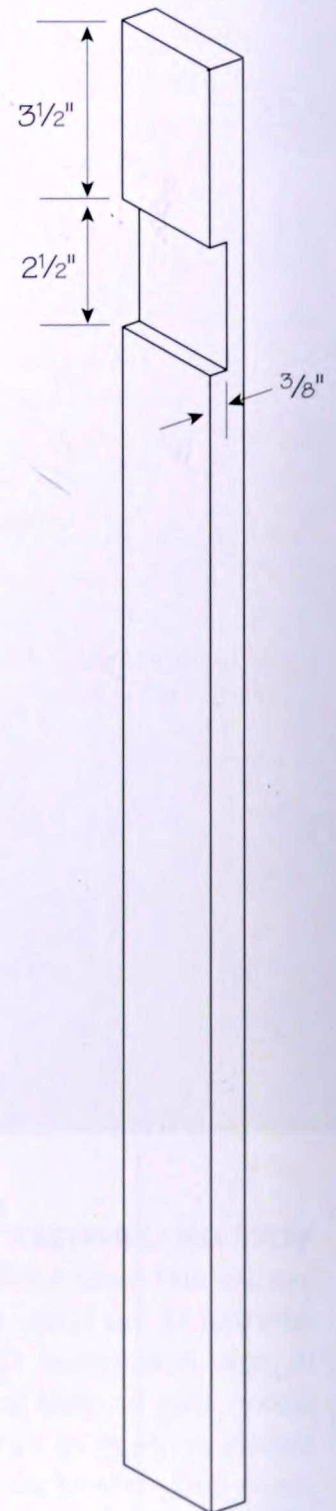
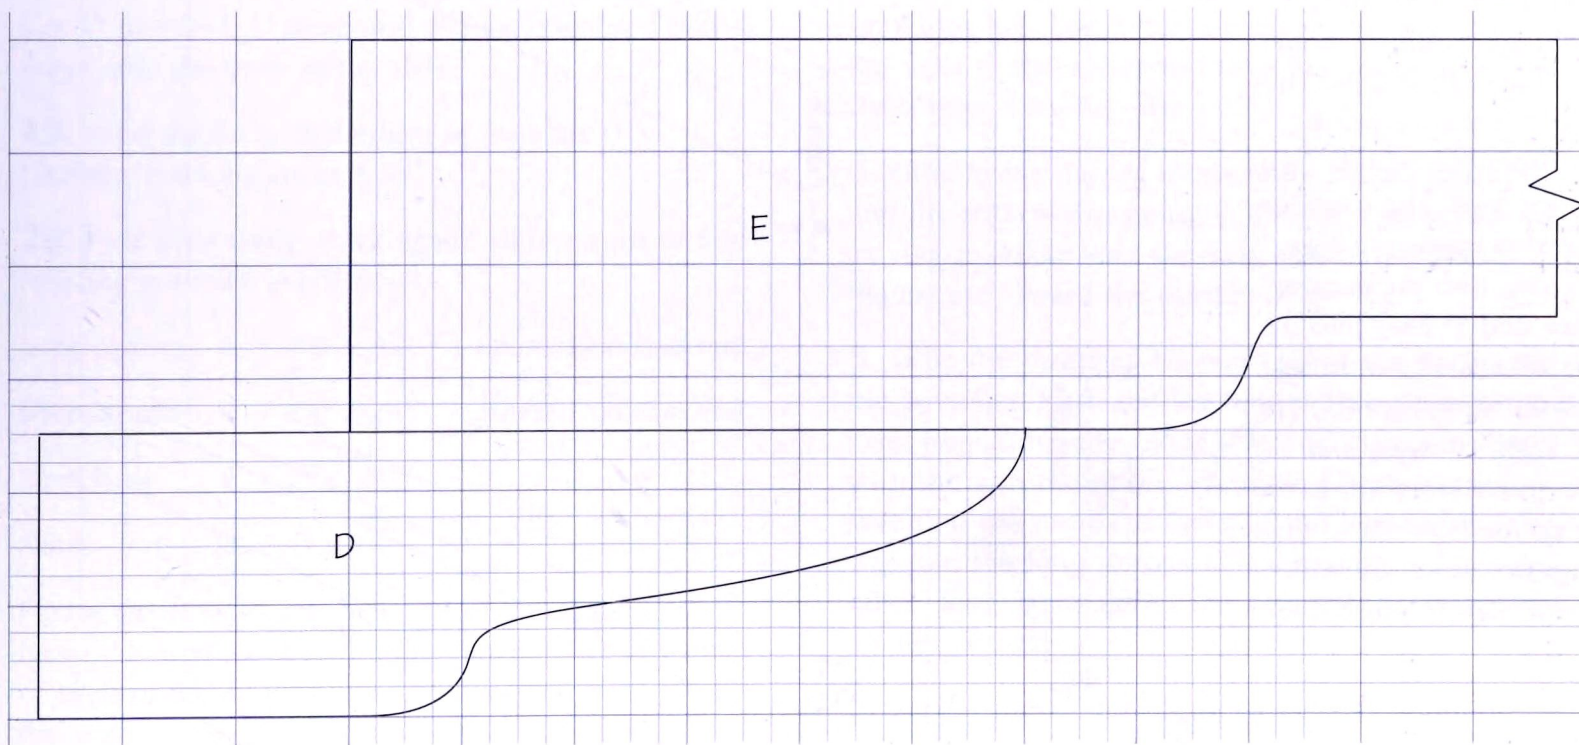

Figure 2
Figure 3
1. The legs (C) are made from two thicknesses of greenheart. Prepare enough material for eight pieces $\frac{3}{4}$ " thick, more than $2\frac{1}{2}$ " wide, and longer than $28\frac{1}{4}$ ". Joint one edge of each piece, and cut all of them to length.
2. Sort the leg pieces for color and grain to get the best match between the two pieces in each leg. Mark the pairs on their ends with one through four slanted lines across the joint. Choose the piece from each pair which will end up closer to the middle of the table. You will cut a housing for the knee (D) into the glue face of each of these pieces.
3. Use a dado head on the table saw, with the miter gauge in combination with the rip fence or drop stop to cut a dado $\frac{3}{8}$ " deep and $2\frac{1}{2}$ " wide across the four inner leg pieces (see figure 2). The dado begins $3\frac{1}{2}$ " from the top of the leg and ends 6" from the top.
4. Prepare enough pernambuco for four knees (D). Thickness the stock to fit the dado's depth precisely, so that sanding the knees will produce a sliding fit. Joint one edge, then cut four pieces at least $8\frac{1}{2}$ " long. Rip and joint each piece to a sliding fit in a particular dado, marking the knees and inner leg pieces as you go.
5. Make a pattern for the knees (D) from the information in figure 3. Aligning the top edge and square end of the pattern with each knee blank, trace the curved line. Band saw to the line, then remove the saw marks with a spokeshave, file, and sandpaper. Sand the faces, curved edge, and square end of the knees.
12. Make a pattern for the curved, bottom edge of the long aprons (E) using the information in figure 3. Trace this pattern on both ends of both long aprons and connect the curved areas with a straight line $2\frac{1}{2}$ " from the top edge of the aprons.